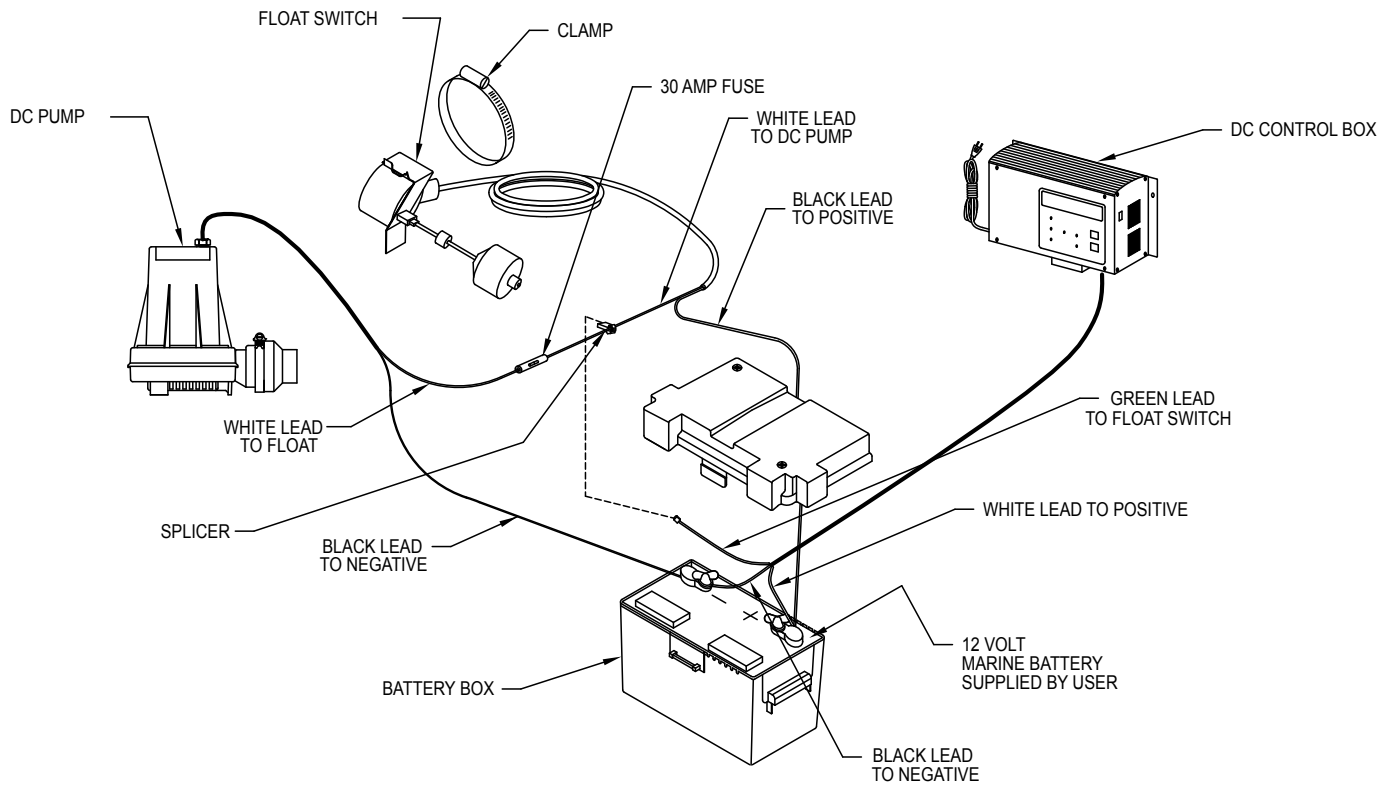

FIGURE 3
4. Install DC control charger (see figure 3) by using the anchors provided. If more convenient, the control charger may be set on a nearby shelf or ledge. The control charger should be located 3 or 4 ft. above the sump.
6. Connect the black lead from the pump to the negative (-) battery terminal. Connect the white lead from the pump to the white lead from the switch. This connection is made at the fuse installed on the switch wire (see figure 3). Connect the black lead from the switch to the positive (+) battery terminal.
7. Connect the green sensor wire to the sensor connector (figure 3).
- (a) Check 30 amp fuse in line from pump to switch (see fig. 3). If fuse is blown, replace with 30 amp AGC fuse.